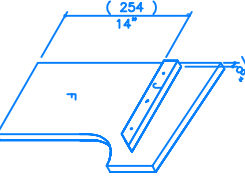

FIGURE 6
- 5) Nail J to F as shown (Fig 6) with glue and 1 1/4" finishing nails. Wipe off excess glue.